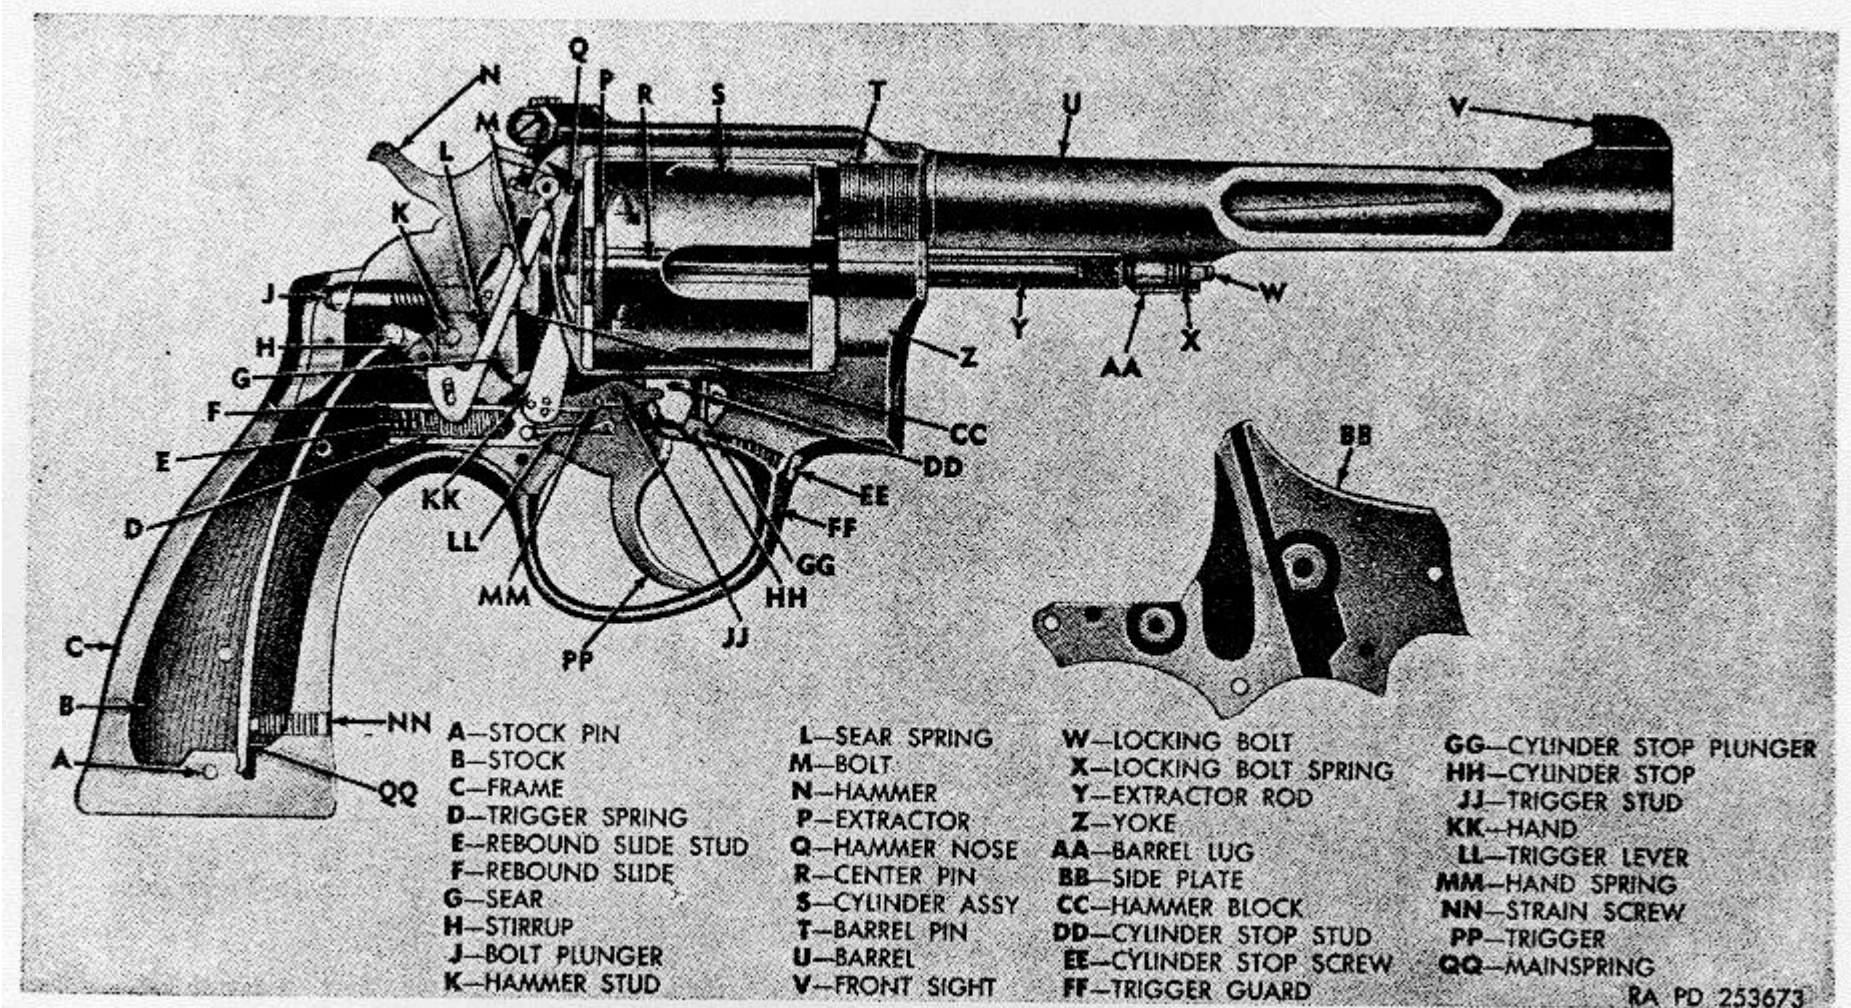

Figure 58. Cal. .38 special Smith and Wesson revolver K--8 (Masterpiece)-cross section view.
*Note.* The key letters shown below in parentheses refer to figure 58.
- b. Remove stock screw and stocks (B).
- c. Lift out hammer block (CC).
- d. Remove strain screw (NN). Depress top end of mainspring (QQ) and disengage stirrup (H) from mainspring hooks. Remove the mainspring.
- e. Pull back on thumbpiece and hold it to the rear. Pull hammer group back to the cocked position. With index finger of right hand, hold the trigger (PP) in the rear position and lift hammer group out. Release the trigger.
- f. Before attempting to remove rebound slide assembly, carefully lift its rear end away from the frame to clear the rebound slide stud (E), compressing the trigger spring (D) enough to relieve the tension against the rebound slide stud.
**Note.** The key letters shown below in parentheses refer to figure 58.
a. Inspect stock (B) for cracks, deep scars, or any defect which may affect serviceability. Replace stocks on which checkering is worn or smooth. Small cracks or chips, which do not affect the strength of the part, will not be cause for replacement. If unserviceable, replace stock.
b. Inspect the yoke assembly (Z) for alinement, looseness, and wear. Check that yoke number corresponds with number on frame and side plate.
c. Inspect cylinder assembly (S) for burs, pits, and other defects which may affect proper functioning. The cylinder is to be free of corrosion and powder fouling. Pits are allowed in the chambers, if they are not large enough to cause extraction difficulties.
d. Inspect extractor (P) and extractor rod (Y) for alinement, tension of extractor rod spring, and functioning of center pin.
e. Inspect mainspring (QQ) for cracks, burs, or wear. Inspect hooks, which engage the stirrup, for distortion. Replace mainspring if necessary.
f. Check that hammer nose is smooth and well rounded, and make certain that hammer pin hole is not elongated. Replace a worn or broken hammer (N).
g. Inspect trigger (PP) and trigger lever (LL) for wear, cracks, or breakage. Check trigger pull for single action, using test weights of 2 1/2 and 3 1/2 pounds. A 2 1/2 pound weight attached to the trigger should not release the sear, but with a 3 1/2-pound weight attached, the sear should release.
h. Check trigger spring (D) for corrosion and distortion. Replace a worn or broken spring. Replace a broken hand (K).
i. Check bolt plunger (J) and bolt plunger spring for wear or distortion; replace them necessary.
j. Examine thumbpiece, locking bolt (W), locking bolt spring (X), and locking bolt pin for burs, wear, or distortion. Replace them if unserviceable.
a. Install locking bolt spring (X) and locking bolt (W) with the flat surface up. Drive locking bolt pin into lug on the underside of barrel.
b. Install cylinder stop (HH) on its pin in the frame. Install cylinder stop plunger (GG), spring, and cylinder stop screw (EE).
c. Install hand spring torsion pin, hand spring (MM), and hand spring pin in the trigger (PP). Using a suitable screwdriver, exert upward pressure on the hand spring and install hand assembly (KK). Insert trigger lever (LL) into trigger and drive in trigger lever pin.
e. Install bolt plunger (J) and bolt plunger spring in recess in rear end of bolt.
f. Install bolt (M) in its recess in the frame by pressing the bolt plunger (J) forward.
h. Install stirrup (H) on hammer (N) and drive in stirrup pin. Install sear spring (L) and sear (G) on the hammer and secure them with the sear pin.
j. Put trigger spring (D) into the rebound slide (F) after compressing the spring. Install the rebound slide assembly against the retaining pin in the frame, with the leveled end forward, so the rear of the trigger lever is positioned in the blind hole in the forward face of the rebound slide.